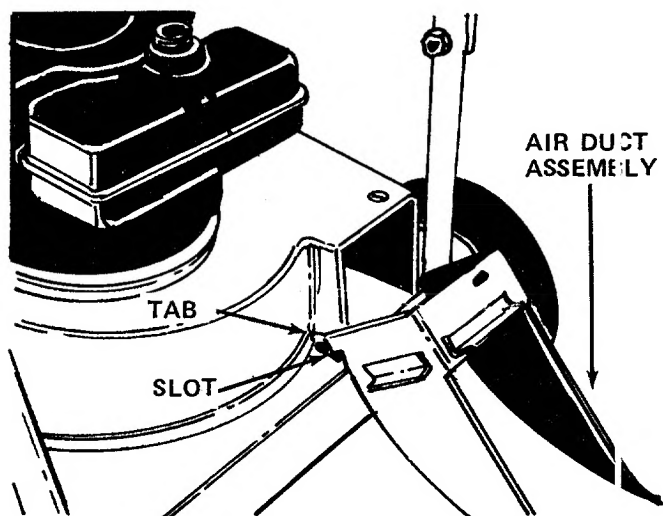

FIGURE 8
10. Place the tabs on the air duct assembly (D) into the slots in the frame as shown in figure 8. Raise the air duct into position.